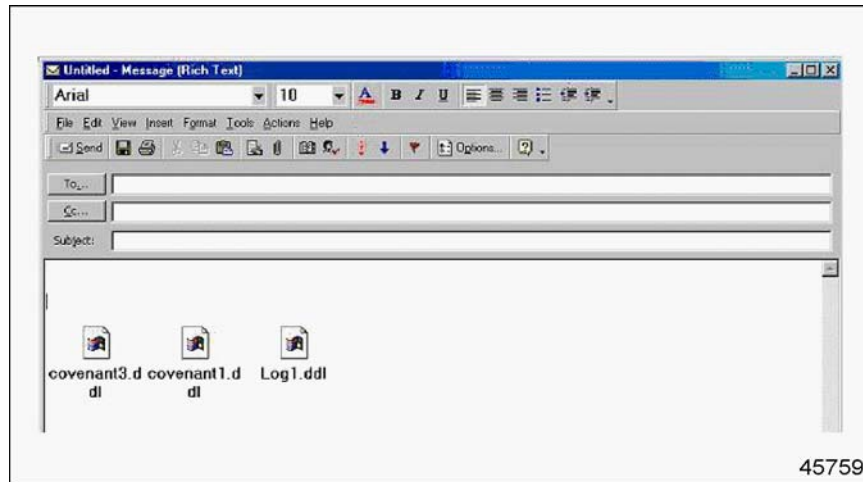

Figure 6-20 Pasting the Snapshot Files into the E-mail
8. The files are now attached in the body of the E-mail. Finish the message and address the E-mail. The E-mail is now ready to send the files. See Figure 6-20.